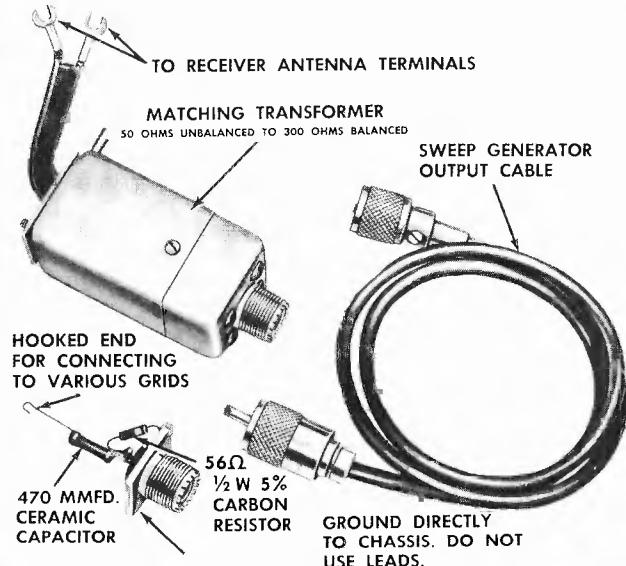
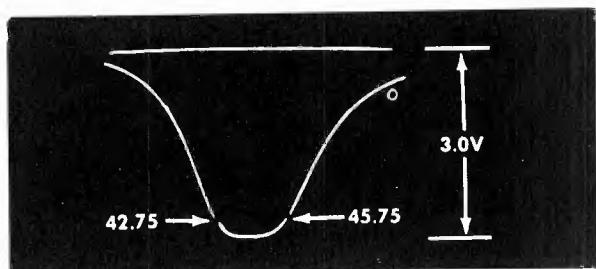
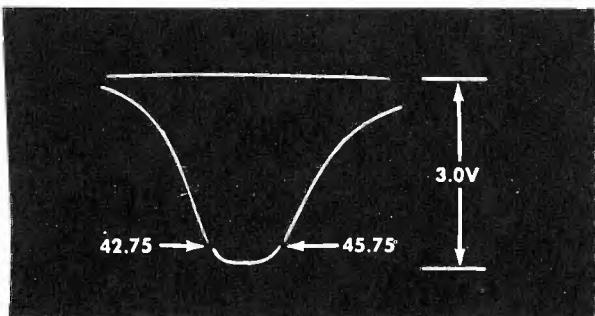

Fig. 1 Alignment Fixtures for RF-IF Alignment.
Fig. 2 4th IF Response Curve
Fig. 5 4th IF Response Curve
3. Feed the sweep generator through a special terminating network as shown in Fig. 1. to Point "G" (Pin 1 of the 3rd IF). Adjust generator to obtain a response similar to Fig. 2. Do not exceed the 3 volt peak to peak detector output during any of the following adjustments.
4. Set the marker generator to 45.75 MHz and alternately adjust the top and bottom cores of the 4th IF for maximum gain and symmetry with the 45.75 MHz and the 42.75 MHz markers positioned as shown in Fig. 2. If the correct response cannot be obtained, check the cores to see that they are not butted but are entering their respective windings from the opposite ends of the coil.
- Feed the sweep generator through a special terminating network as shown in Fig. 1 to Point 'G' (Pin 1 of the 3rd IF). Adjust generator to obtain a response similar to Fig. 5. Do not exceed the 3 volt peak to peak detector output during any of the following adjustments.
- Set the marker generator to 45.75 MHz and alternately adjust the top and bottom cores of the 4th IF for maximum gain and symmetry with the 45.75 MHz and the 42.75 MHz markers positioned as shown in Fig. 5. If the correct response cannot be obtained check the cores to see that they are not butted but are entering their respective windings from the opposite ends of the coil.